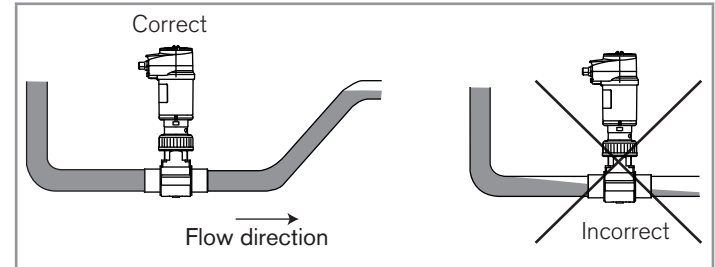
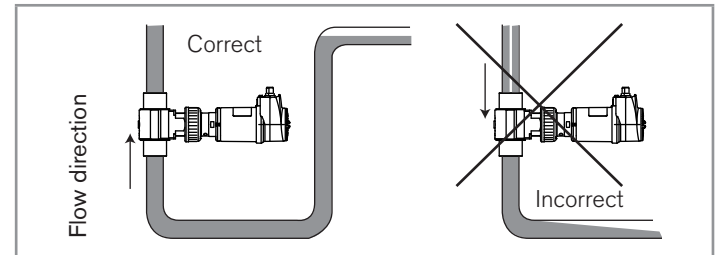

Fig. 5 : Filling of the pipe
Fig. 6 : Filling of the pipe, when using a Type 8222 conductivity meter installed horizontally
- Ensure that the pipe is always filled in the section around the product (Fig. 5 and Fig. 6).